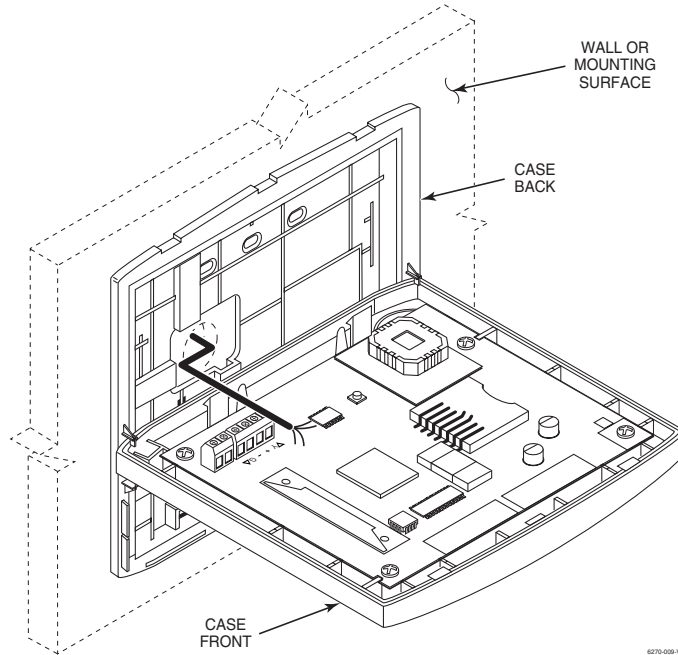

Figure 2. Wiring Preparation
1. The 6270 has holding clips on the case back to hold the case front while you are wiring the unit. Hang the case front on the holding clips as shown in Figure 2.